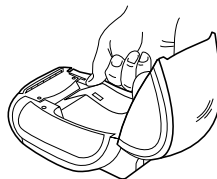

Figure 10
- 7 Align the left edge of the label with the left edge of the label feed slot and insert the label into the slot. See Figure 10.